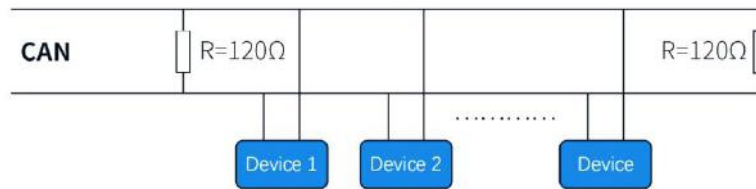

Figure 3-1
7. When using CAN protocol to connect multiple devices, please refer to the connection method shown in Figure 3-1 below.